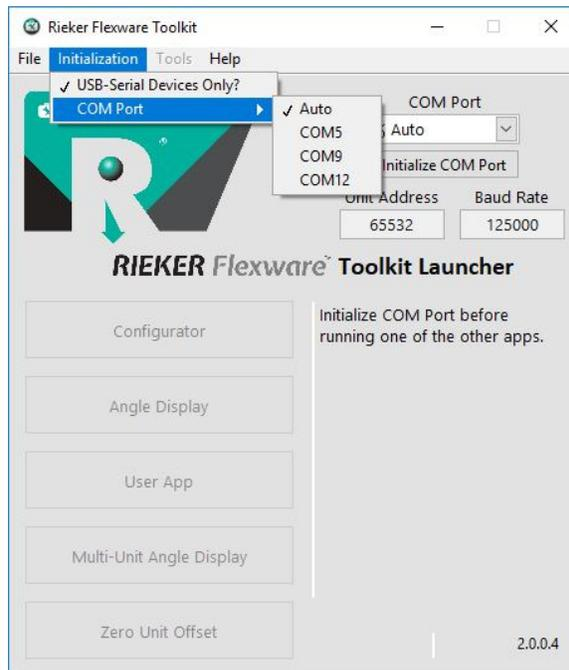

FIGURE 2: Flexware Toolkit Initialization
1. In the COM Port dropdown (or Initialization->COM Port menu (Figure 2)), select the COM port determined earlier in this guide (or Auto to let the toolkit search) and click “Initialize COM Port”. The launcher will attempt to initialize the COM port, determine the baud rate, and test the communication.